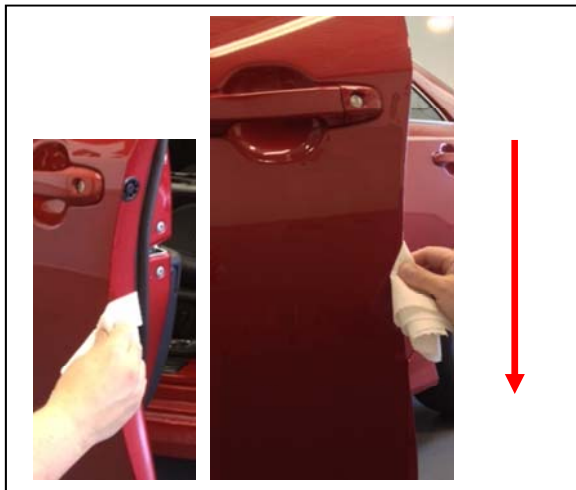

Fig. 1-2
- (2) Using the second lint free cloth, thoroughly dry the area free of Simple Green (or VDC approved cleaner) previously applied. In some instances a rubber weather seal may be found – ensure to clean between the trailing edge and rubber seal (Fig. 1-2). Turn the cloth repeatedly to attain a dry surface.